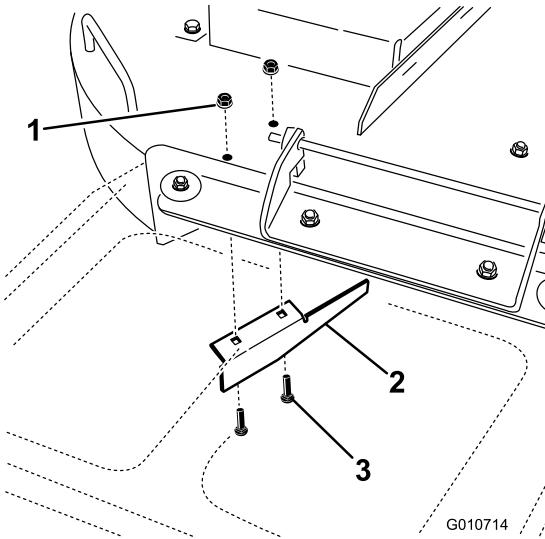

Figure 1
5. Locate the cut-off baffle at the side discharge opening on the mower deck (Figure 1).